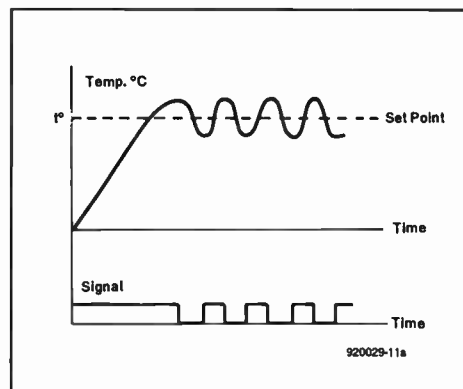

Fig. 1a. On/off control.
- **On/off control.** This is the simplest way to control temperature. When the temperature of the medium to be heated is below the set point, the heating element is switched ON and turned OFF when the temperature goes above the set point. The medium temperature fluctuates from the set point by 5–10 °C. Figure 1a shows the control signal and the temperature rise. Typical applications are for cooking oven, laboratory hardening processes and sealing equipment.